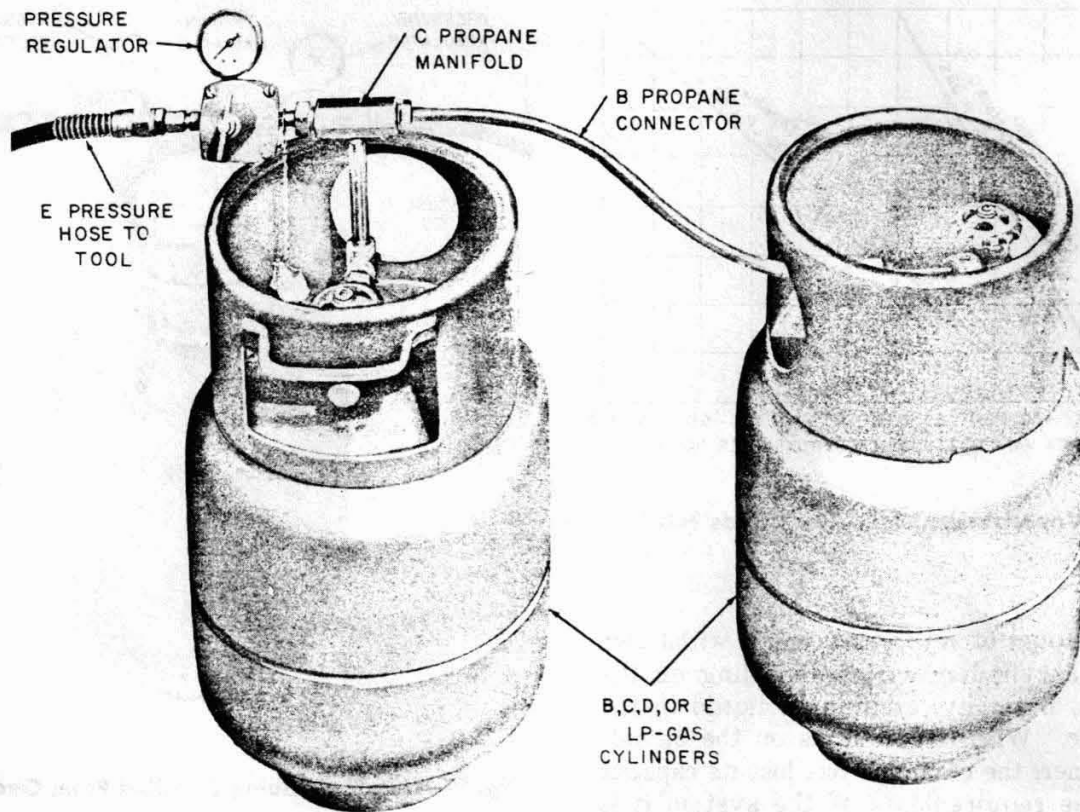

Fig. 10—One Tool Being Supplied From Two Cylinders
**6.08** If only one tool is being supplied with fuel from one cylinder, and the cylinder loses its capacity for supplying fuel to the tool, as outlined in 6.06, use two or more cylinders as shown in Fig. 10.